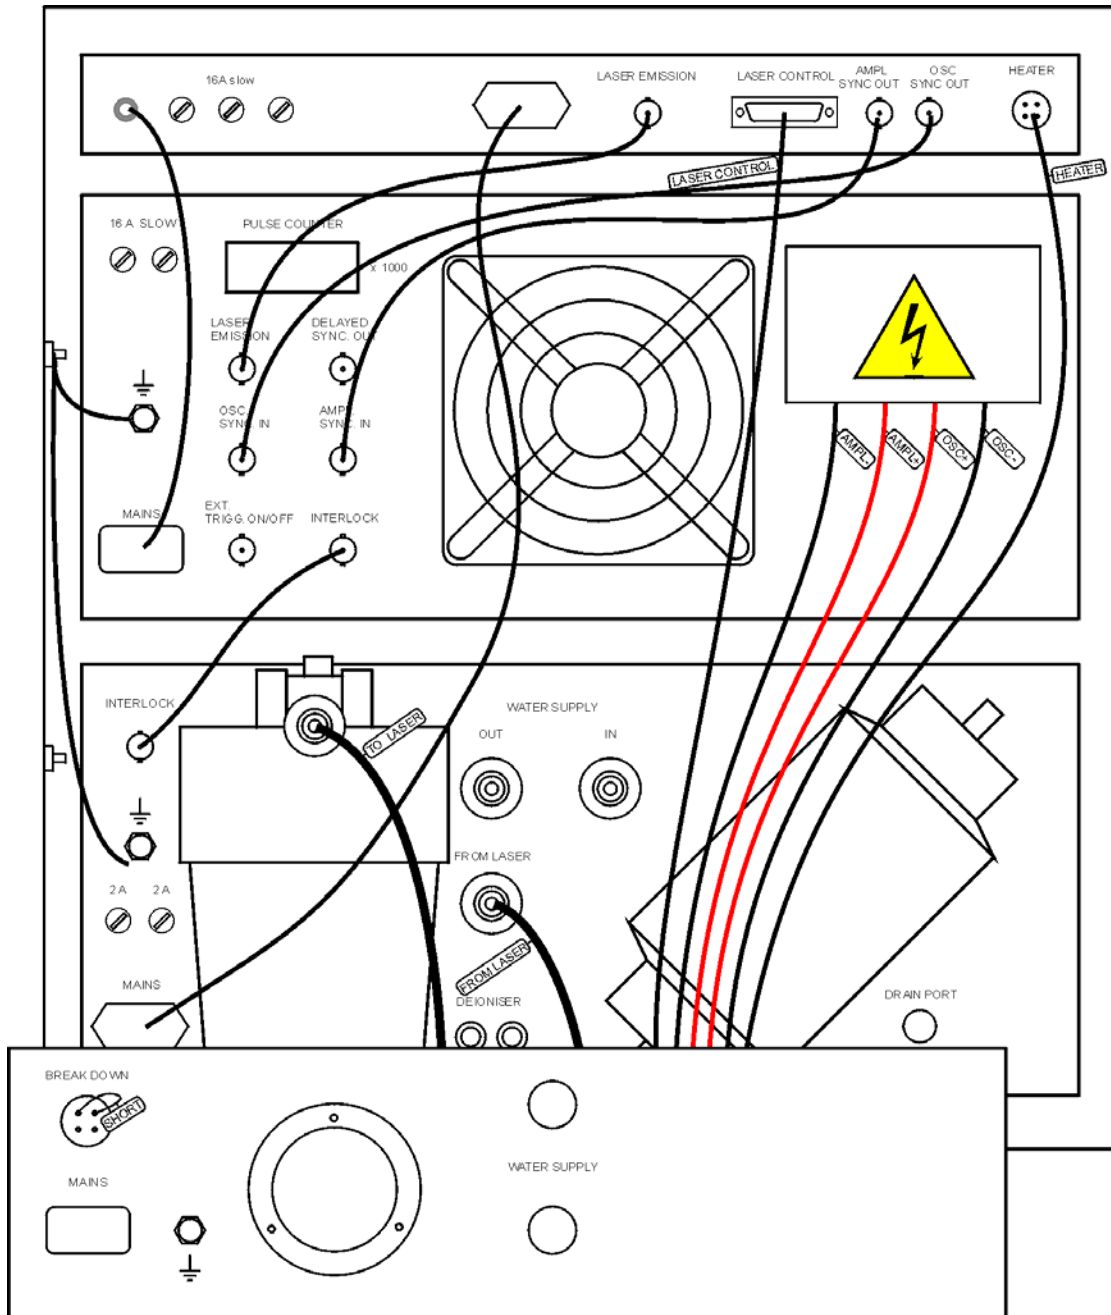

Fig.4. Rear view of power supply stand
3. Connect the units with the stand control unit (see Fig.4). For this, connect the mains cable on the power supply stand with mains inlet on the cooling unit. Connect mains outlet on the stand with mains inlet on power supply.
5. Connect laser head with units. For this, connect high voltage cables of power flash lamps to high voltage power supply unit output connections according to the marks. Connect cooling pipes to lock-nut junctions LASER IN and LASER OUT according to the marks. Connect terminal 'L' on power supply with the ground wire coming from the laser head. Connect the crystals heating cable HEATER to the corresponding socket on the control unit. Connect cable BREAKDOWN. Connect cable LASER CONTROL to the socket on control unit (see Fig.4).